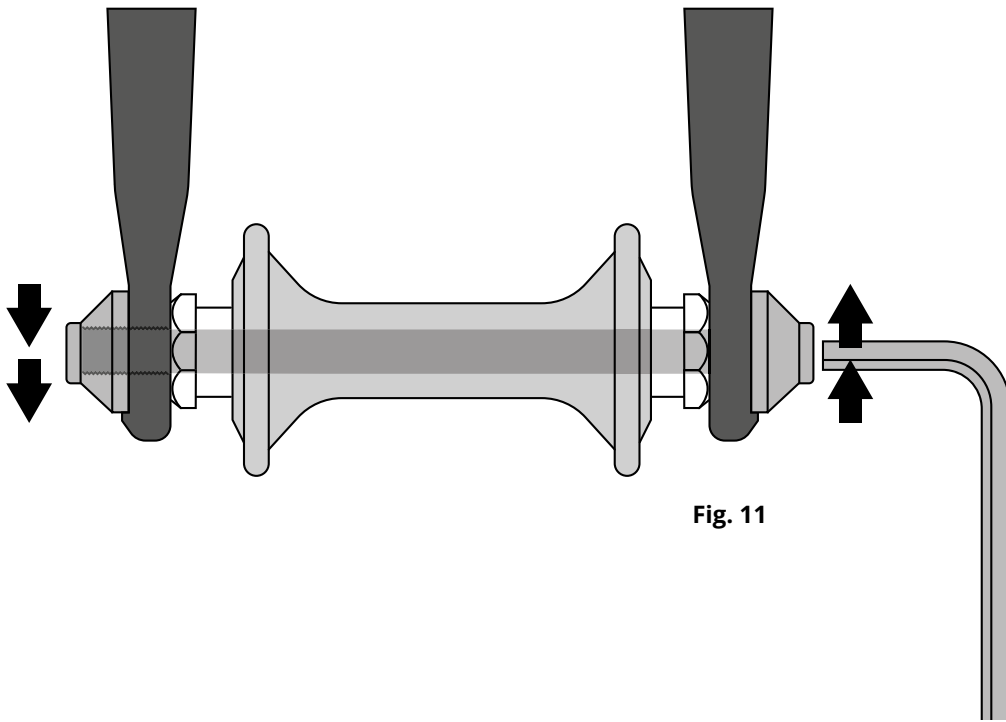
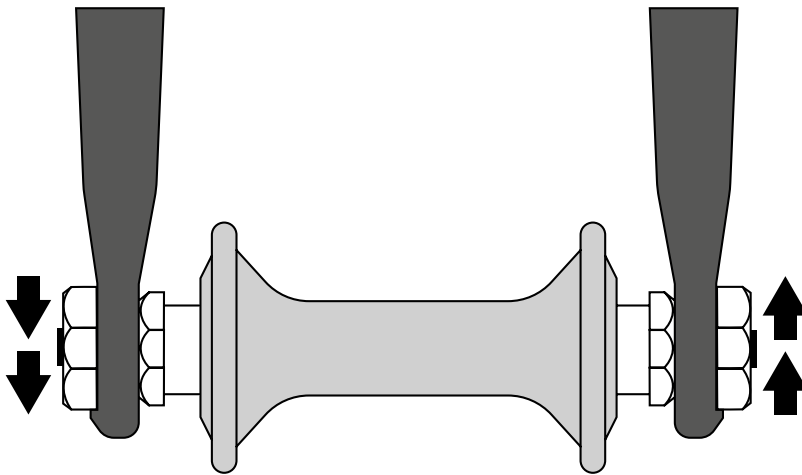

Fig. 11
Fig. 12
- 3. Some Ebike brakes, such as disc brakes (fig. 11) and linear-pull brakes (fig. 12), are extremely powerful. Take extra care in becoming familiar with these brakes and exercise particular care when using them.**
Most rim brakes have some form of quick-release mechanism to allow the brake pads to clear the tire when a wheel is removed or reinstalled. When the brake quick release is in the open position, the brakes are inoperative. Please contact **DENAGO** at cs@denago.com or call at **1-(877)-755-2453(BIKE)** or ask your dealer for all service to make sure that you understand the way the brake quick release works on your Ebike (see figs. 12, 13, 14 & 15) and check each time to make sure both brakes work correctly before you get on the Ebike.